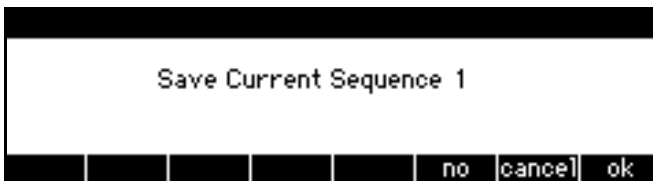

Figure 2-19 Save the Sequence
7. When you have finished entering the sequence, select **Exit** repeatedly until the screen shown in Figure 2-19 is displayed.